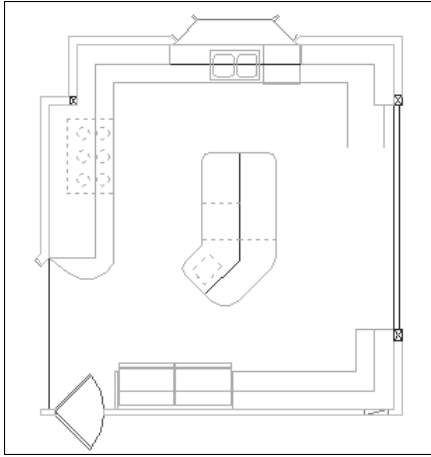

**Figure 9-20:** Kitchen floor plan with all selected items shown with dashed lines.
5. To select the six-burner stovetop, pick a point near ③, being careful that the pickbox at the intersection of the crosshairs doesn't touch any object. Transparently zoom in and back out, if necessary. Then move the mouse to ④ and pick again. The objects that you have chosen appear dashed to indicate that they have been selected.
7. Turn off OSNAP. To select the interior lines on the kitchen's island by using a fence, type **f** ↵. Then pick points ⑤, ⑥, and ⑦. Press Enter to end the fence.
8. Type **r** ↵ at the **Select objects:** prompt (the prompt changes to **Remove objects:**) and pick the line at ⑧ to remove the external island line picked in Step 7. At this point, all of the selected items should be dashed, as shown in Figure 9-20.